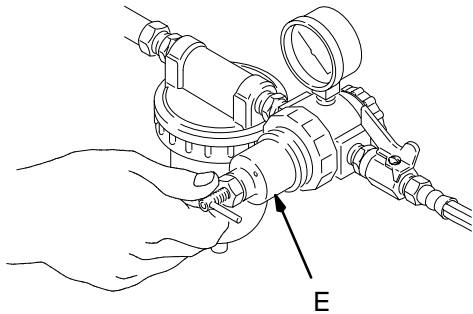

Fig. 18
- F. Set the gun air supply pressure at 40 psi (2.8 bar), using the gun atomizing air regulator (E). See Fig. 18.